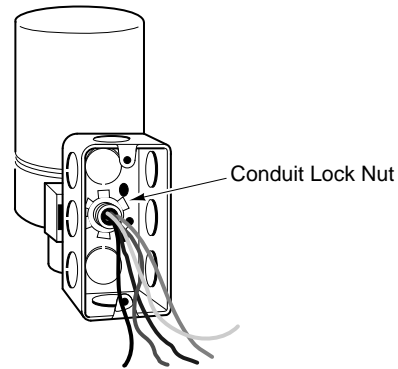

Figure-13 Attachment of Conduit Box to Threaded Adaptor.
7. Install the rigid conduit, the flexible conduit, etc. to the conduit box as required. Refer to Figure-13 .